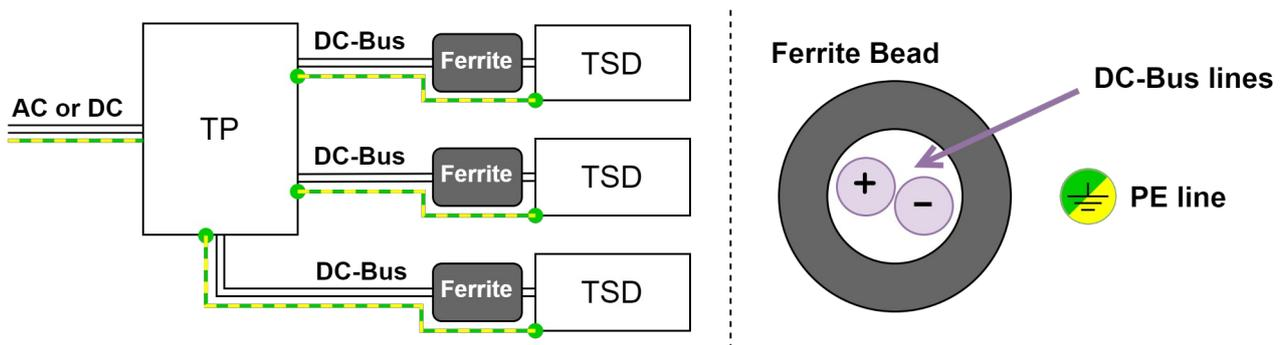

Figure 2: LHS: Multi-Drive setup with chokes. RHS: Assembly instruction for ferrite beads.
**Advice** In case of multiple drives attached to one TP, add ferrite beads as chokes to each DC-Bus line to improve EMC (Figure 2 - LHS).
**Advice** Only run the DC-Bus lines through the ferrite beads and run the PE line around it (Figure 2 - RHS).